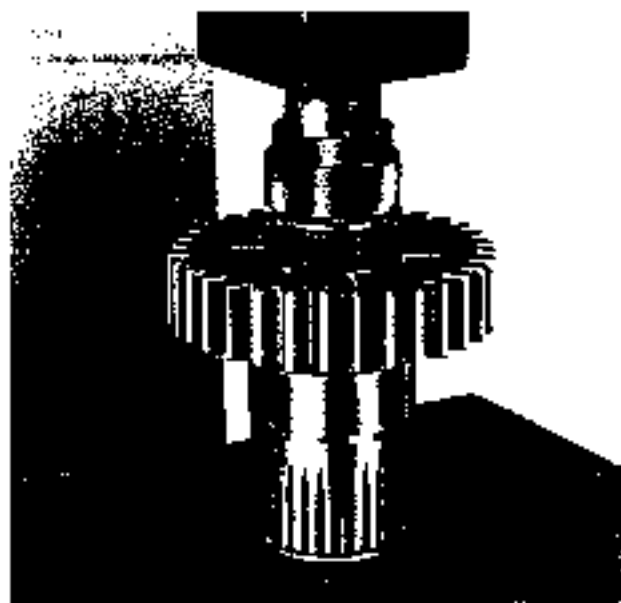

Figure 7-41. Installing Transmission Side Needle Bearing in Main Drive Gear
11. See Figure 7-41. Turn over the main drive gear in the arbor press. With the foot at the 0.090 in. stop, press in inner bearing.